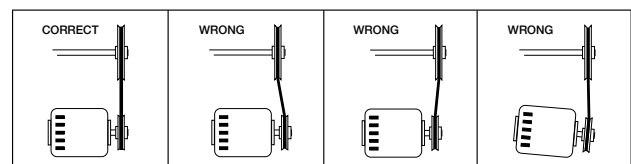

Figure 10
7. If adjustments are made, it is very important to check the pulleys for proper alignment. Misaligned pulleys lead to excessive belt wear, vibration, noise and power loss, see Figure 10.